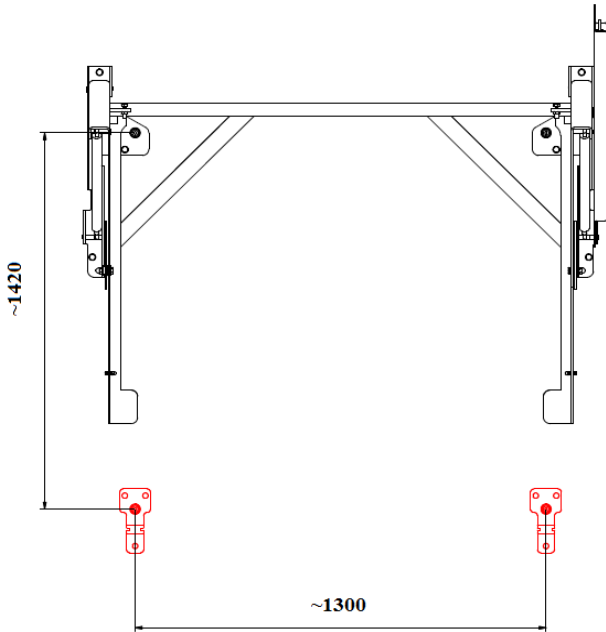

Fig.11. Mounting feet spacing with pins
6. Place the mounting feet with pins as shown in the figure below. Do not drill. Do not anchor the construction to the ground (Figure 11).